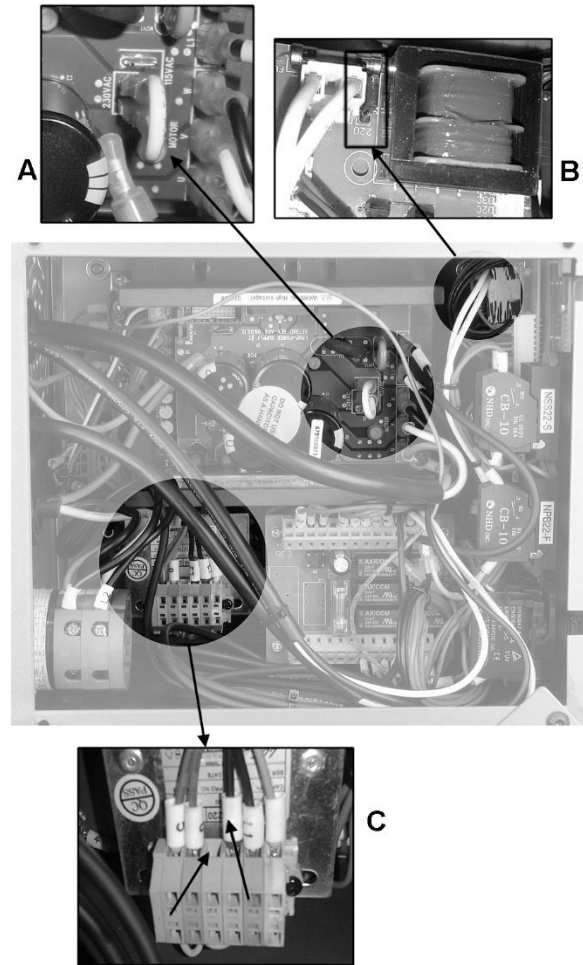

Figure 6-2: Voltage conversion
1. See Figure 6-2. Remove control box panel and change wire connections for the PC Board (A); Digital Readout (B); and Transformer (C).